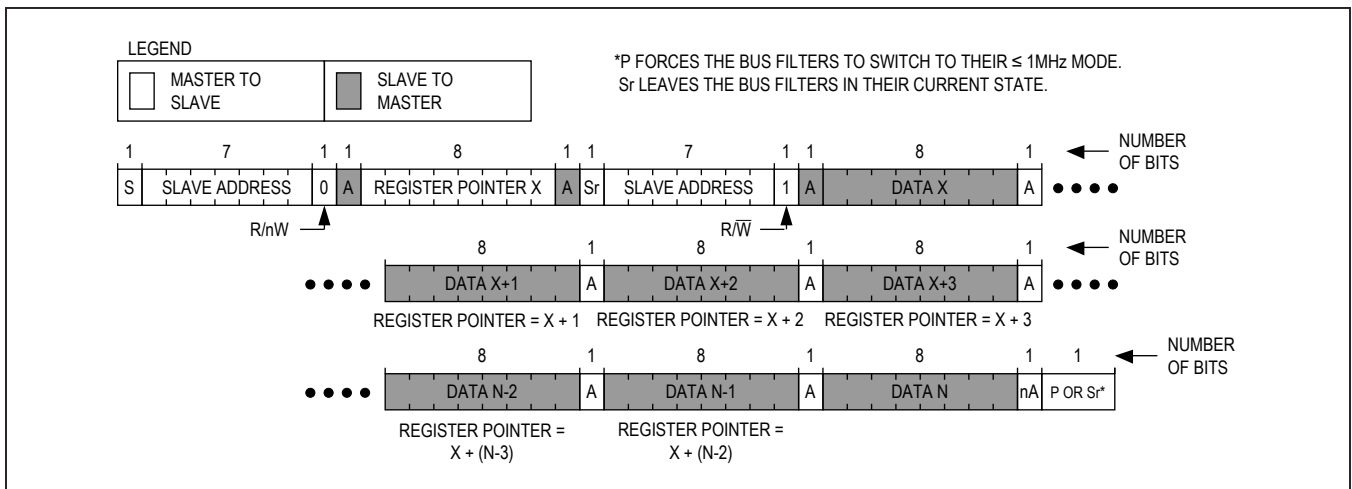

Figure 10. Reading Continuously from Sequential Registers “X” to “N”
Figure 10 shows the protocol for reading from sequential registers. This protocol is similar to the read byte protocol except the master issues an ACKNOWLEDGE (A) to sig-